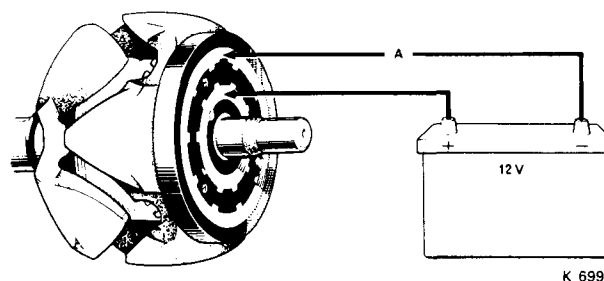
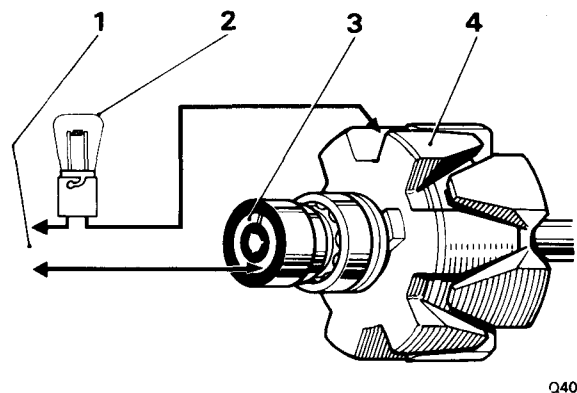

FIG. M27 MEASURING ROTOR WINDING RESISTANCE WITH BATTERY & AMMETER
FIG. M28 INSULATION TEST OF ROTOR WINDING
Test the rotor winding by connecting either an ohmmeter or a 12 volt battery and ammeter between the sliprings (see Fig. M27). The resistance should be 3.6 ohms at 20 °C or the current approximately 3 amps. Test for defective insulation between one of the sliprings and one of the rotor poles using a 110 volt A.C. mains supply and a 15 watt test lamp. (see Fig. M28). If the lamp illuminates the coil is earthed to the rotor core and a replacement rotor/slipring assembly must be fitted.
2. Using a 110 Volt (A.C.) mains supply and a 15 Watt test lamp (*see Fig. M28*), test for defective insulation between one of the slip rings and one of the rotor poles. If the lamp is illuminated the coil is earthing and a replacement rotor/slip ring assembly must be fitted.